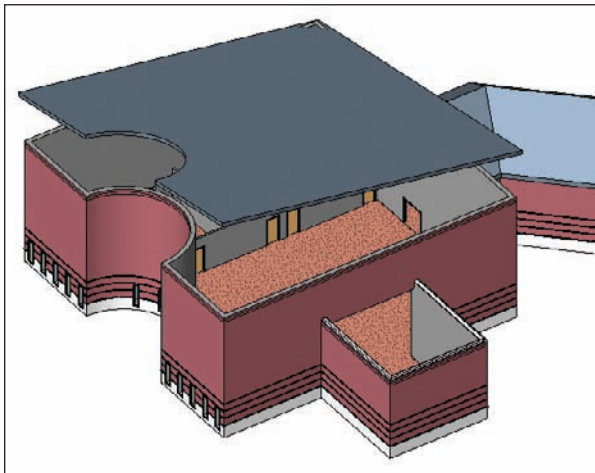

FIGURE 7.44 The sloping roof
6. Go to a 3D view. You now have a cool, sloping roof, as shown in Figure 7.44.